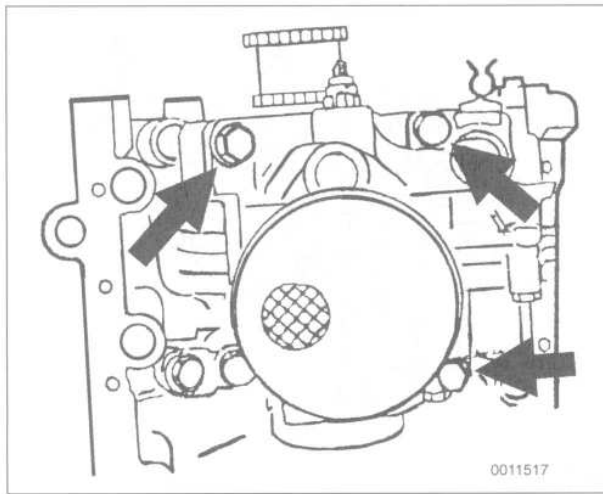

Fig. 9. Oil pump mounting bolt and nuts (arrows) on M60 engine. Oil pump drive sprocket shown removed.
- Remove center nut at oil pump sprocket and remove sprocket from pump. Remove oil pump mounting bolt and nuts and remove oil pump. See Fig. 9.